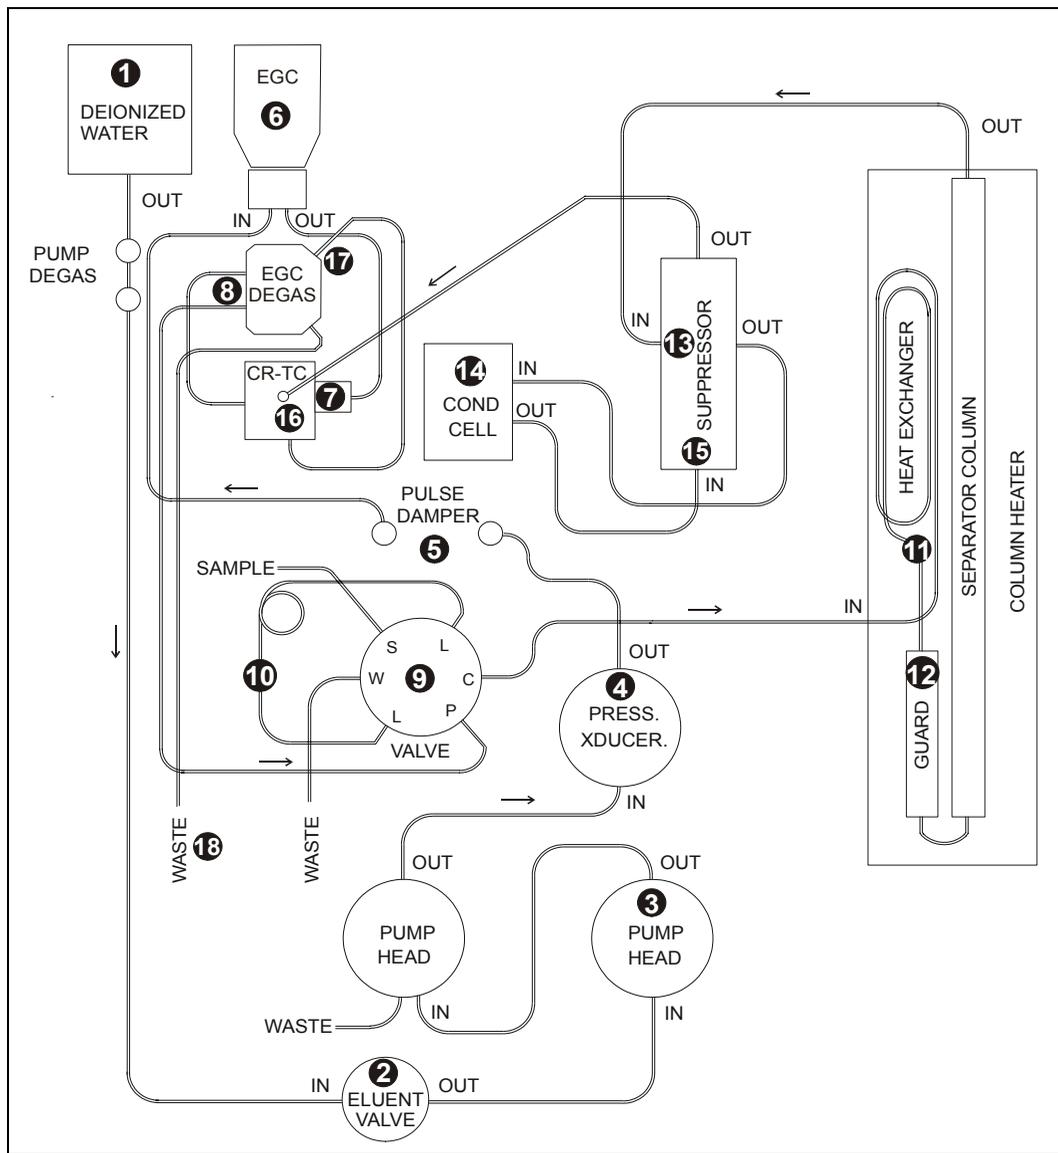

Figure 5-7. ICS-2000 Flow Schematic
2. Follow the ICS-2000 flow schematics in Figure 5-7 and Figure 5-8 and work backward through the system, beginning at the suppressor **Regen Out** exit. One at a time, loosen each fitting and observe the pressure. The connection at which the pressure drops abnormally indicates the point of restriction.